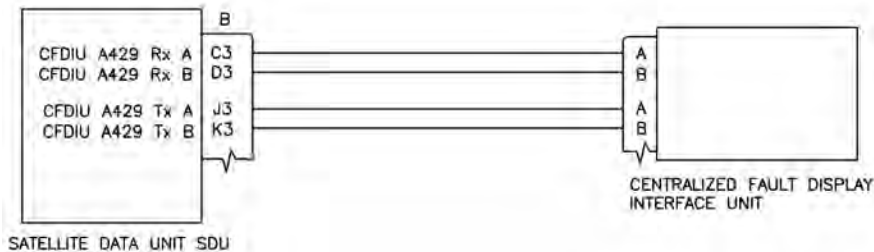

Figure 6-4 – CFDIU Interface
The SDU communicates with the Centralized Fault Display Interface Unit (CFDIU) over two ARINC 429 Low Speed busses, (1) input and (1) output as shown in Figure 6-4.